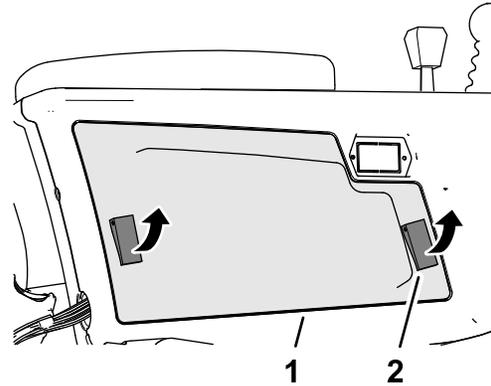

Figure 99
2. Open the 2 latches that secure control-arm cover to the control arm, and remove the cover (Figure 99).